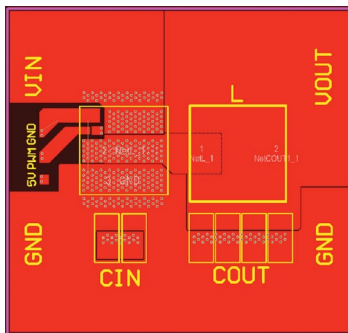

Figure 4: Top layer layout with filled thermal vias
1. Large copper planes should be connected to the development board to improve thermal performance as shown in figures 4 through 6. If filled vias are used in the board design, thermal vias should be placed under the device as shown in figure 4 to better distribute heat through buried inner layers. For a design without filled vias, thermal vias should be located outside of the development board as shown in figure 6. Also, for a design without filled vias, the vias to make the V_{DD} connection should be tented and located outside of the V_{DD} pad.